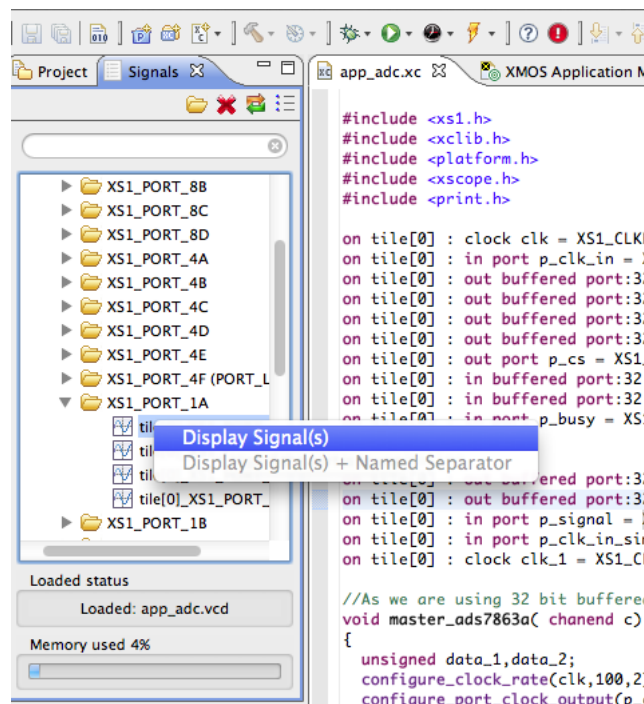

Figure 7: Screen capture showing signals
3. Right-click on *tile[0]_XS1_PORT_1A* and select the **Display signal(s)** option. This adds the Port 1A into the waveform view (Figure 7).